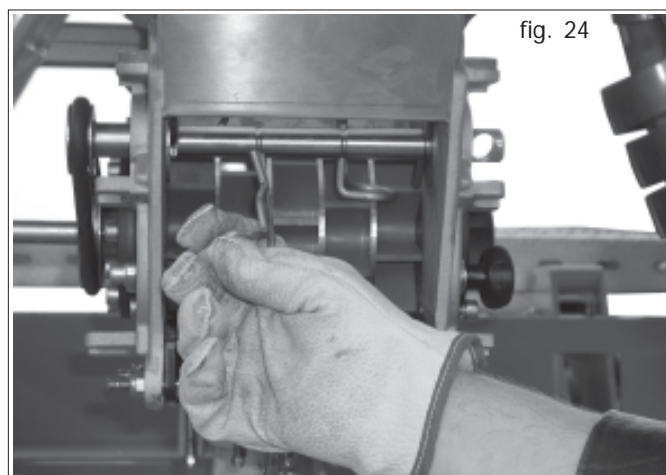

fig. 24
- To remove the curved pin, simply pull it towards yourself to detach it from the agitator axle (Fig. 24).